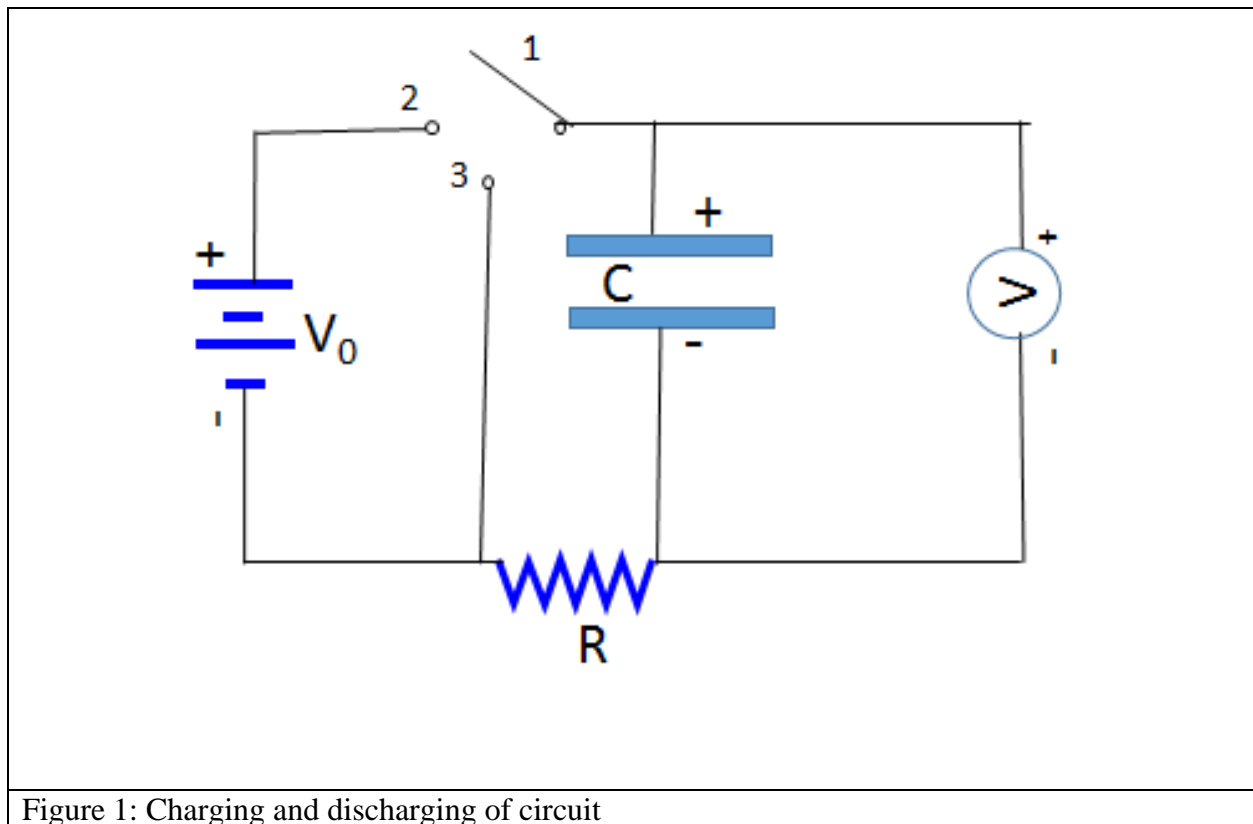

Figure 1: Charging and discharging of circuit
6. Connect the circuit diagram according to figure1 using C1 and R in the circuit.